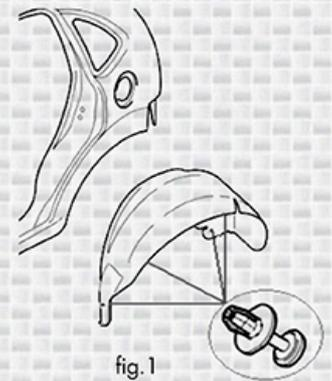

fig.1
- Deposit the rear wheels, then remove the clips (4 clip per side) (Fig. 1)